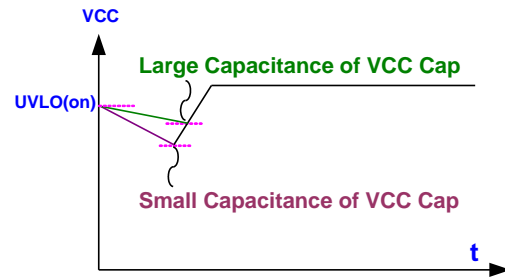

Fig. 26
2. Increase VCC capacitance to improve VCC's performance in dropping at startup transient, shown as Fig 26.